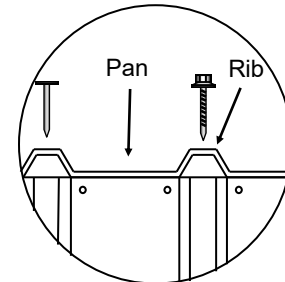

fig.3
- Using 4 x 50mm Clouts, pre-drill and nail the Roof Sheets to the Top Plates through the ribs, at each corner, ensuring ribs on the Roof Sheets line up with ribs on the Wall Sheets (**fig.3**).